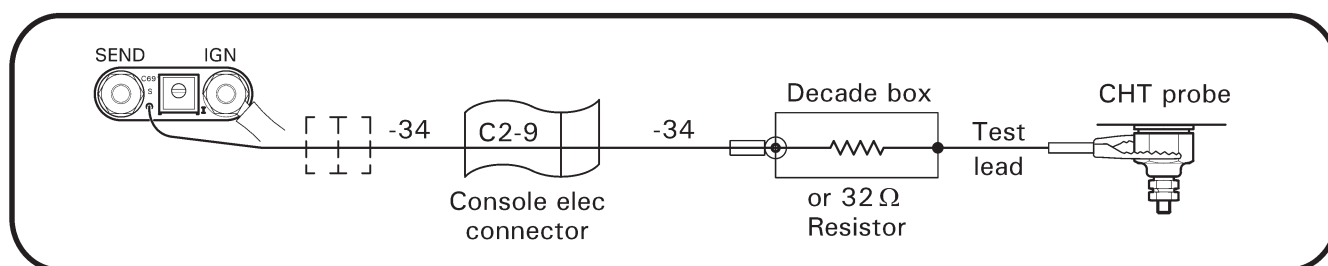

FIGURE 33-2 CYLINDER HEAT TEMPERATURE GAGE CALIBRATION
5. Refer to Figure 33-2. Adjust resistance decade box to 32 ± 0.4 ohms and verify resistance with multimeter. Alternately, a 32.0 ± 0.4 ohm resistor may be used instead of decade box. Connect a low-impedance (< 1 ohm) test lead to one terminal on decade box and clamp opposite end of lead to hexagonal body of CHT probe; do not connect lead to center conductor of sender/probe. Connect -34 wire to remaining terminal on decade box.